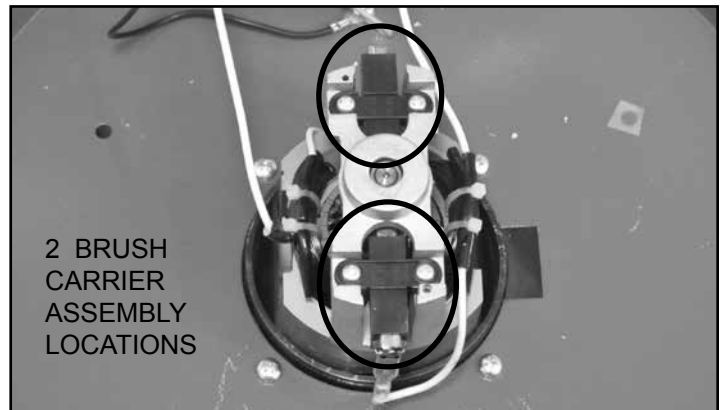

FIG. 9
3. Locate the area on the motor where the carbon brushes are located. FIG. 9.